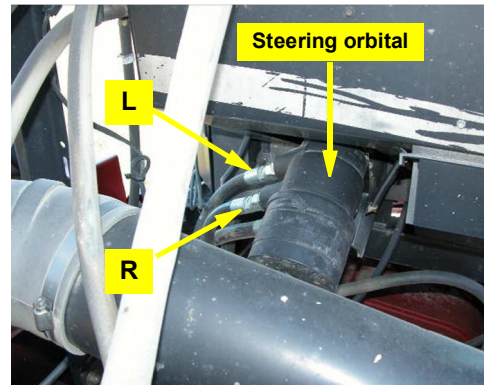

Figure 8a: Left and right steering hoses at orbital
- a. Locate the two smaller lines coming out of the orbital. They are the left (L) and right (R) steering lines (Figure 8a).